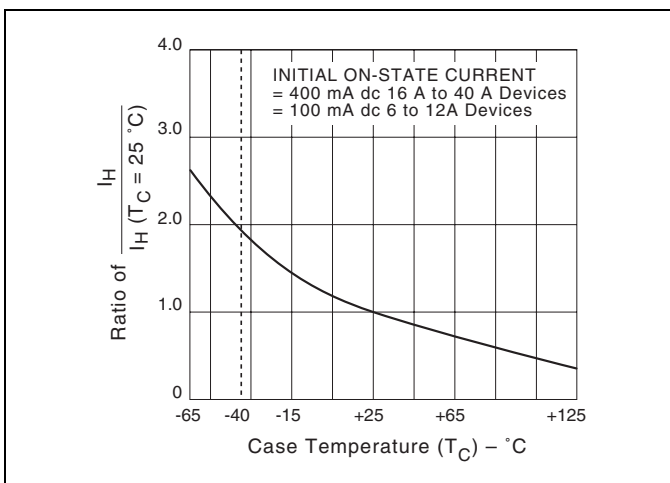

Figure E4.9 Normalized DC Holding Current versus Case Temperature
- (8) See Figure E4.9 for IH versus TC.